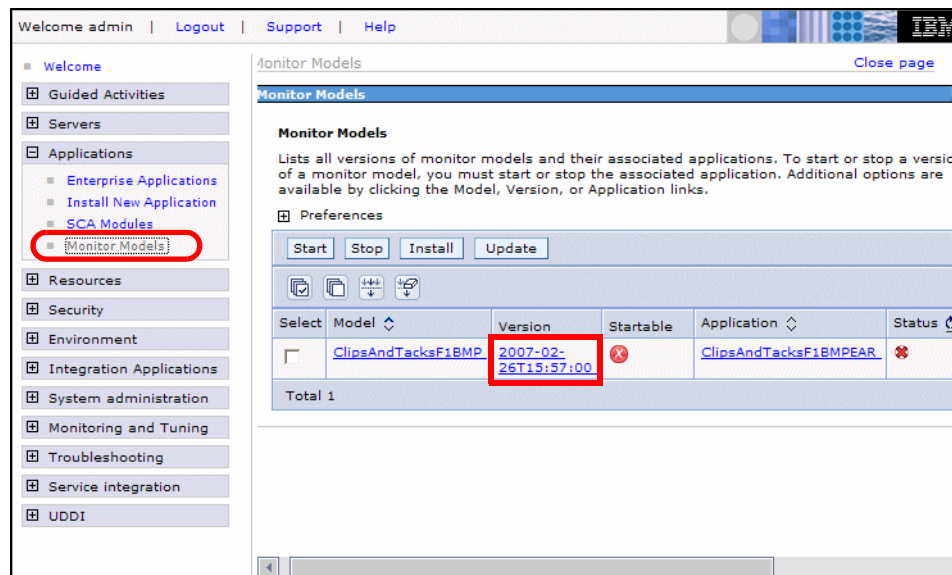

Figure 12-75 Monitor Models with project not startable
- ▶ Select the hyper link (2007-xx-xxTxx:xx:00) in the Version column to configure the model (Figure 12-75).